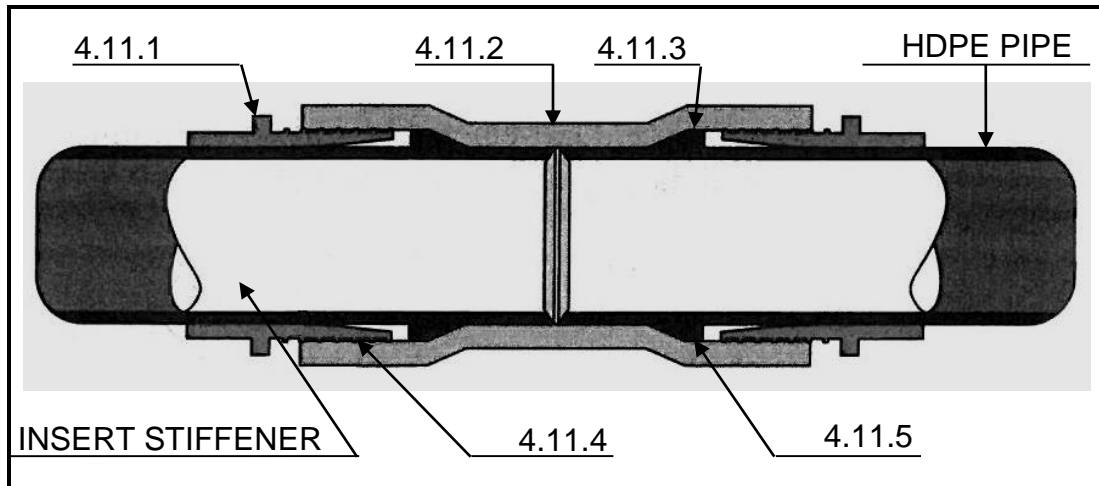

FIGURE 4.11
- 4.11 Name the parts 4.11.1 to 4.11.5 of the polythene compression fitting in FIGURE 4.11.